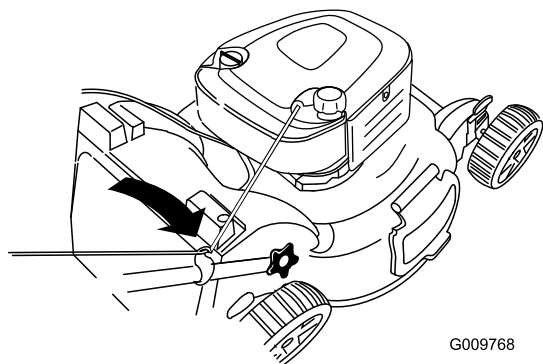

Figure 29
2. Route the starter rope around the lower-rope guide (Figure 29).